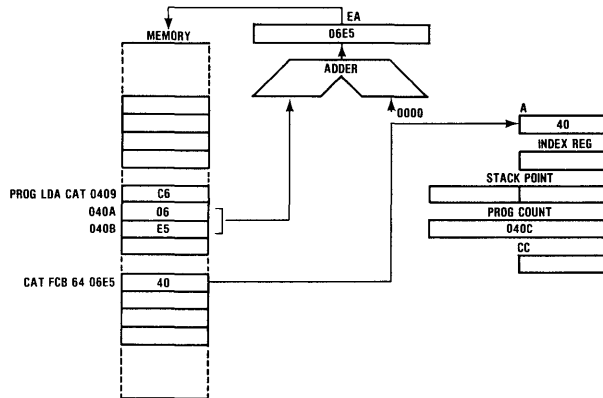

Figure 24. Relative Addressing Example
Relative—Refer to Figure 24. The relative addressing mode applies only to the branch instructions. In this mode the contents of the byte following the opcode is added to the program counter when the branch is taken. $EA = (PC) + 2 + Rel$. Rel is the contents of the location following the instruction opcode with bit 7 being the sign bit. If the branch is not taken $Rel = 0$, when a branch takes place, the program goes to somewhere within the range of +129 bytes to -127 of the present instruction. These instructions are two bytes long.